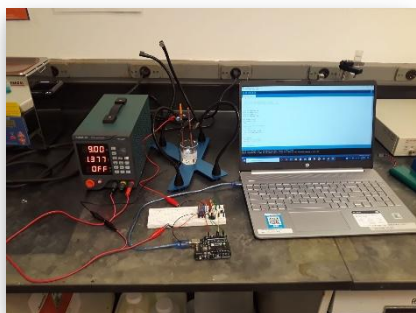

Figure 7B
- Set the long onTime to 30000 to perform the electropolishing for 30 seconds, and the long offTime to 5000, and click upload (arrow found in the top, left area of the screen shown in *figure 7A*). The software should indicate "Done uploading" at the bottom of the screen (shown in *figure 7B*).